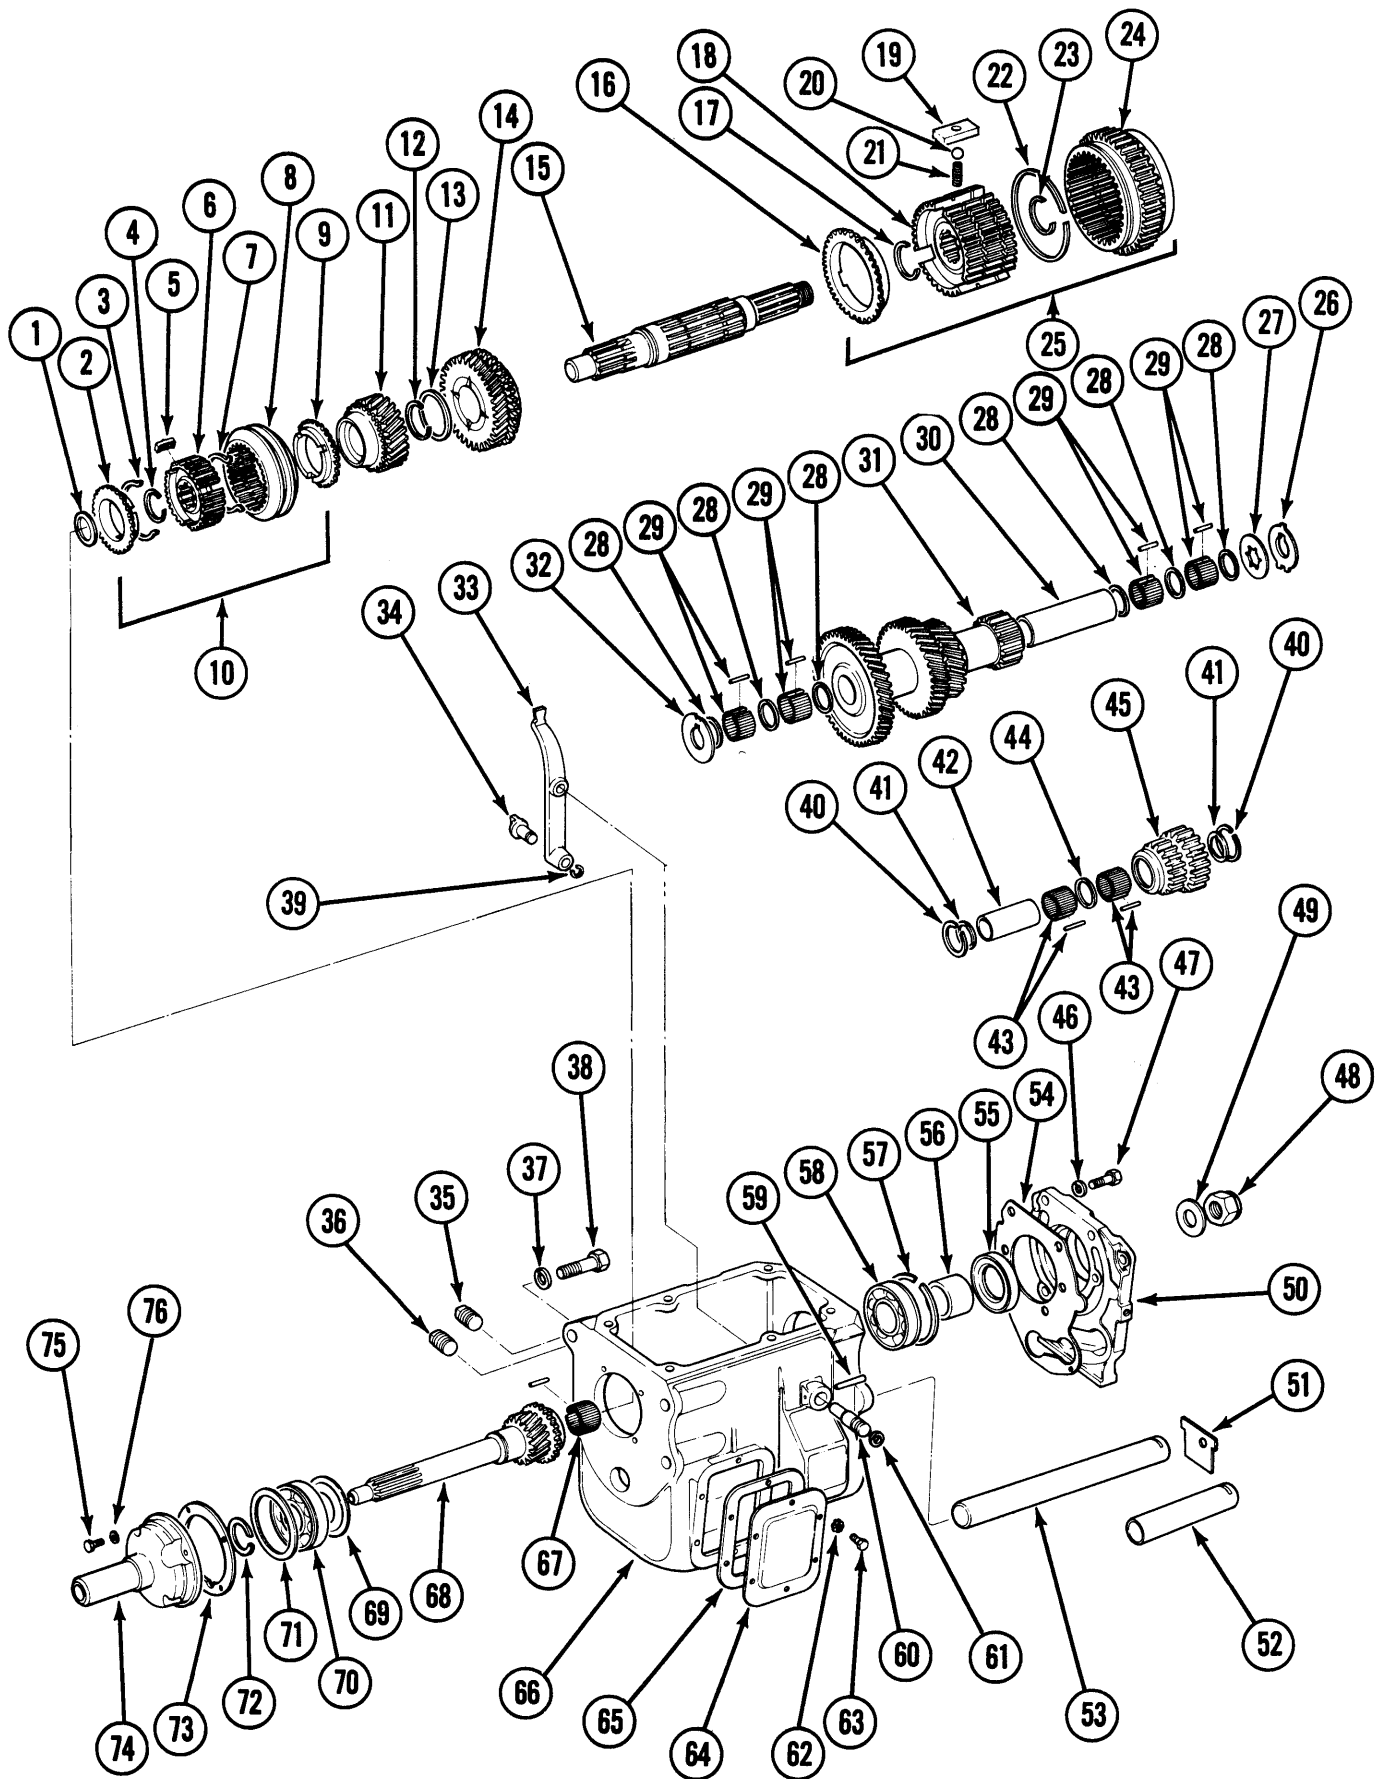

Fig. 6-35 Model T-18A Transmission
- (6) Remove reverse shifting arm, shifting arm shoe, and pivot. Remove O-ring from pivot and discard O-ring.
- (7) Move first-second gear hub to Neutral position.
- (8) Punch alignment marks in front bearing cap and case for assembly reference and remove cap and gasket.
- (9) Remove lockring from clutch shaft and snapping from front bearing (fig. 6-35).
(1) Scribe alignment marks on main shaft splines and clutch hubs for assembly reference.
(2) Remove pilot bearing spacer from front of main shaft (fig. 6-35).
(3) Remove third-fourth synchronizer snap ring and remove third-fourth synchronizer assembly and Third gear (fig. 6-35).
(4) Remove first-second synchronizer snap ring and remove first-second synchronizer assembly (fig. 6-35).
(5) Move second gear rearward. Remove second gear snap ring and remove second gear.
(6) Punch alignment marks on clutch hubs and sleeves for assembly reference.
(7) Remove insert springs and shifting plates from third-fourth synchronizer assembly and separate sleeve and hub.